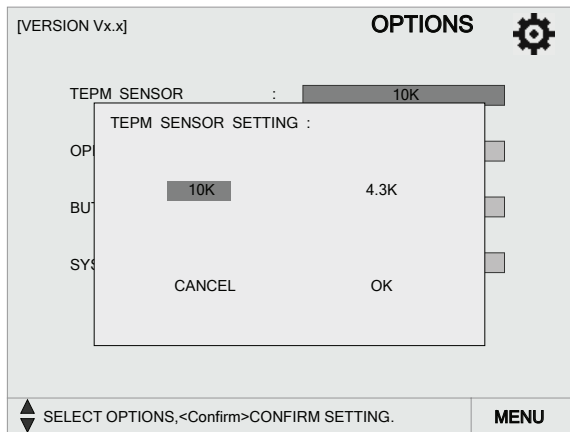

Fig.3-6 TEMP SENSOR SETTING Page
**TEMP SENSOR:** (Fig.3-6) The discharge temperature and oil temperature are set through adjusting the resistance of their sensors.